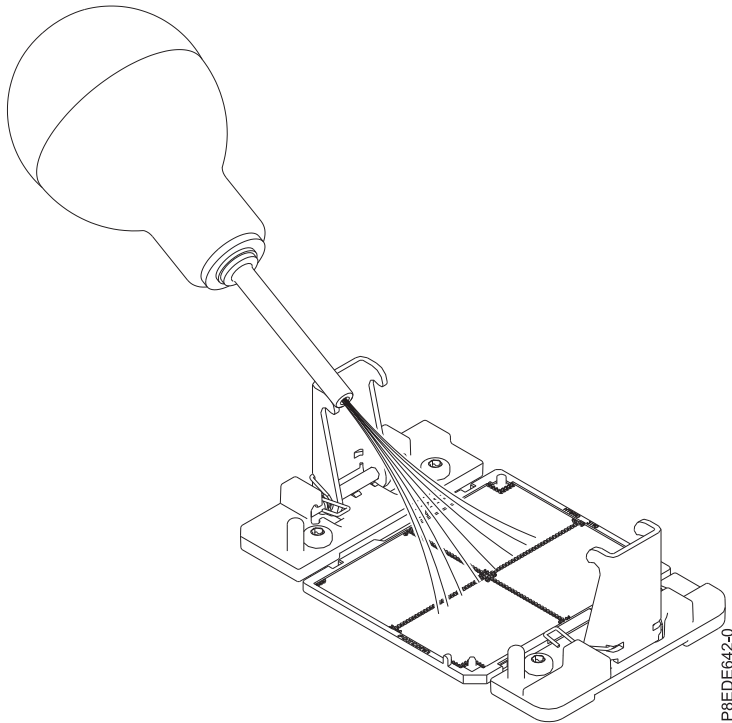

Figure 36. Removing dust and debris from the system processor socket
- a. If dust or debris is present on the system processor socket, use the supplied air pump (part number 45D2645) to clean the socket. Blow small bursts of air from the center toward the sides of the socket, as shown in Figure 36 on page 36.